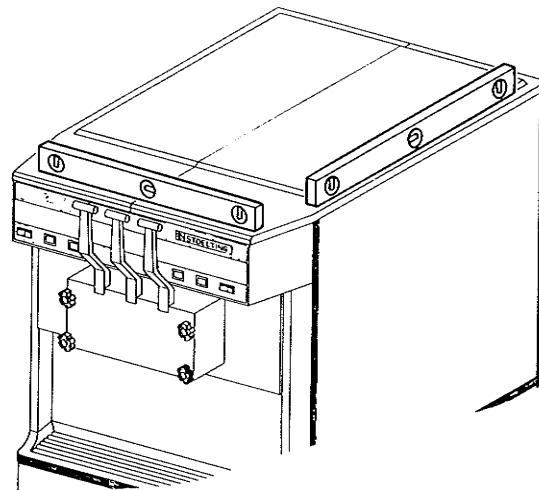
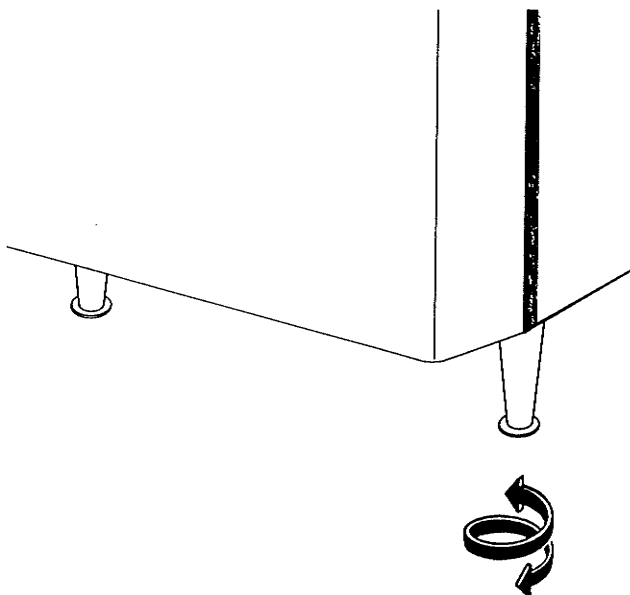

Figure 5. Leveling Freezer
Figure 6. Leg Adjustment
- C. Accurate leveling is necessary for correct drainage of freezer barrel to insure correct over-run and flow. Place a spirit level on top of the freezer at each corner to check for level condition (Fig.5). If adjustment is necessary, level the freezer by turning the bottom part of each leg in or out (Fig. 6).